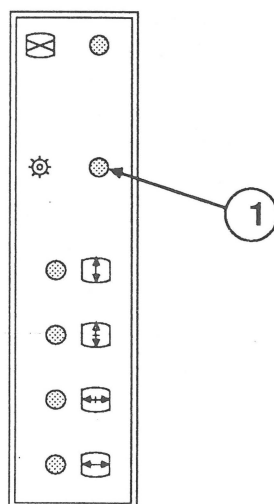

FIGURE 6
5. Using the plastic screwdriver, adjust the CUTOFF control (RV506) (Figure 6, #1) until the first bar from the left is black and the second bar is just visible.